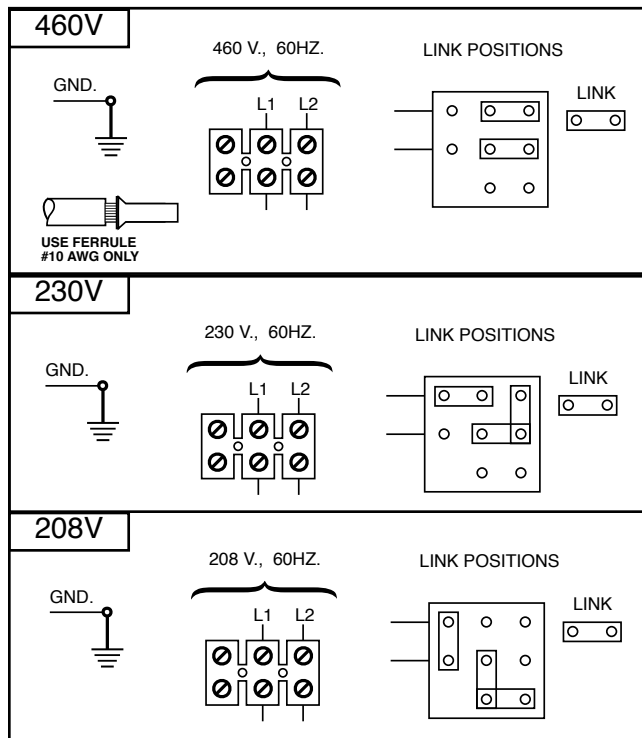

FIGURE A.3a-Voltage Link Positions for 208/230/460 VAC machines.
1. For 208/230/460 VAC machines, see Figure A.3a.